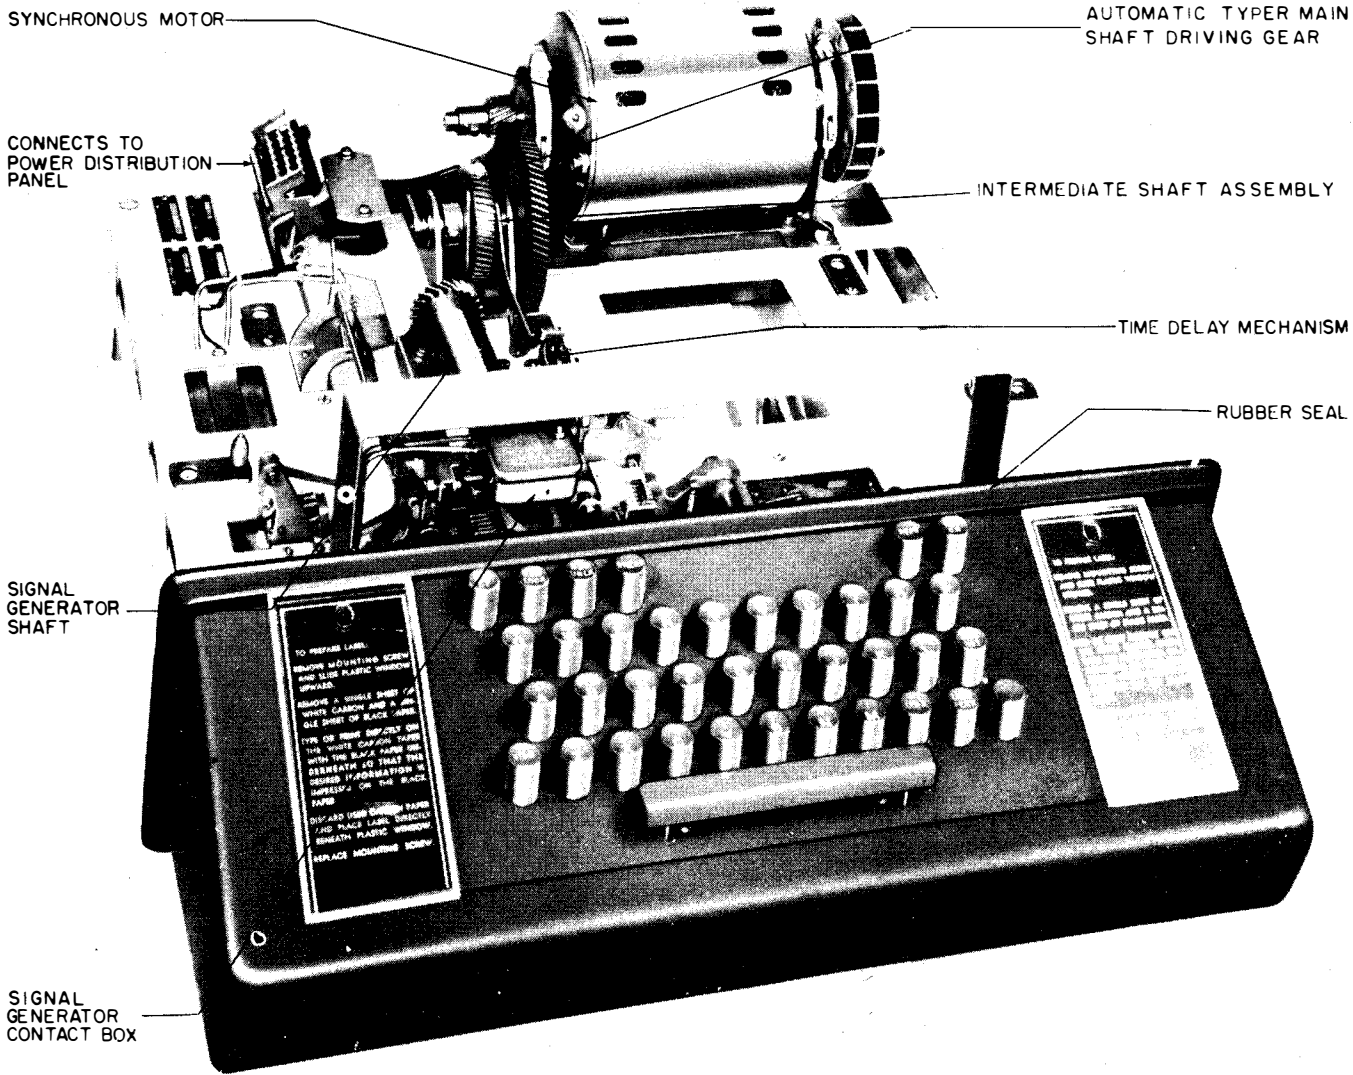

Figure 1-2. Keyboard MX-1114A/UG, With Motor
a. KEYBOARD MX-1114A/UG OR BASE NT-1443/UG. (See figures 1-2, 1-2A.)
(1) GENERAL.—The Keyboard or Base supports the AC Motor and the Automatic Typer. A time delay mechanism for stopping the motor on extended idle periods of the signal line is connected in the Keyboard or Base but may be disabled if not required. The Keyboard or Base with the Automatic Typer and AC Motor mounted in position is placed upon rails within the Cabinet. The front of the Keyboard or Base protrudes beyond the Cabinet and is fitted with a rubber pad that seals the edges of the aperture for a silencing effect. Motive force for activating the Keyboard or Base is derived from the AC Motor by way of the Automatic Typer.
(2) KEYBOARD MX-1114A/UG. (See figure 1-2.)—The Keyboard incorporates code selecting and signal generating mechanisms. Signal line and power